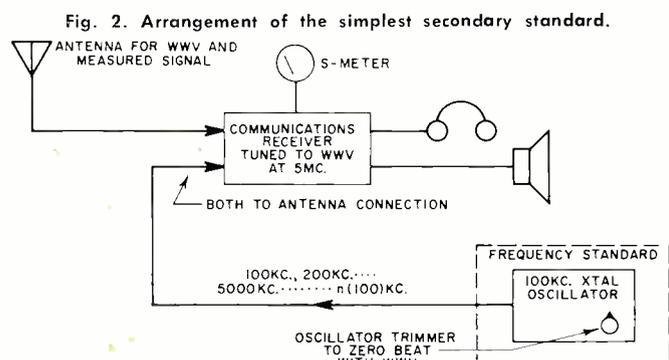

Fig. 2. Arrangement of the simplest secondary standard.
Fig. 2. Three variations of a high-power GTCR switch. (A) Free-running type uses trigger diodes to initiate switching action. (B) Normally off monostable version is triggered on by application of positive-going pulses. (C) Normally on version requires a negative-going signal applied to the gate electrode to turn the GTCR off. The GTCR is a Motorola MGCS 821-2.
The simplest type of secondary frequency standard is illustrated in block form in Fig. 2. It is a stable crystal-controlled 100-kc. oscillator. The oscillator is equipped with a trimmer capacitor connected across the crystal, or with some other arrangement to allow very small adjustments (up to several hundred cycles per second) of the frequency of the generated signal. This allows compensation for variations in the oscillator frequency due to such things as temperature and voltage variations. A typical 100-kc. crystal oscillator circuit suitable for use as a secondary frequency standard is shown in Fig. 3.